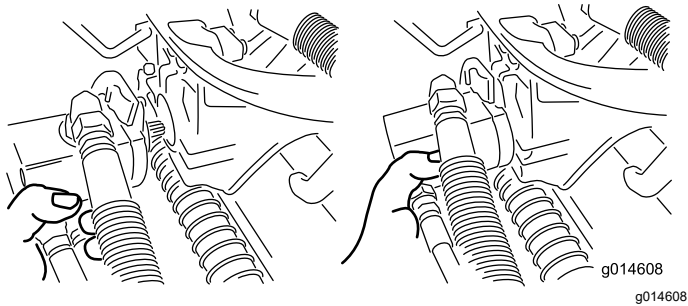

Figure 57
3. Move the motor to the storage location on the front of the suspension arm (Figure 57).